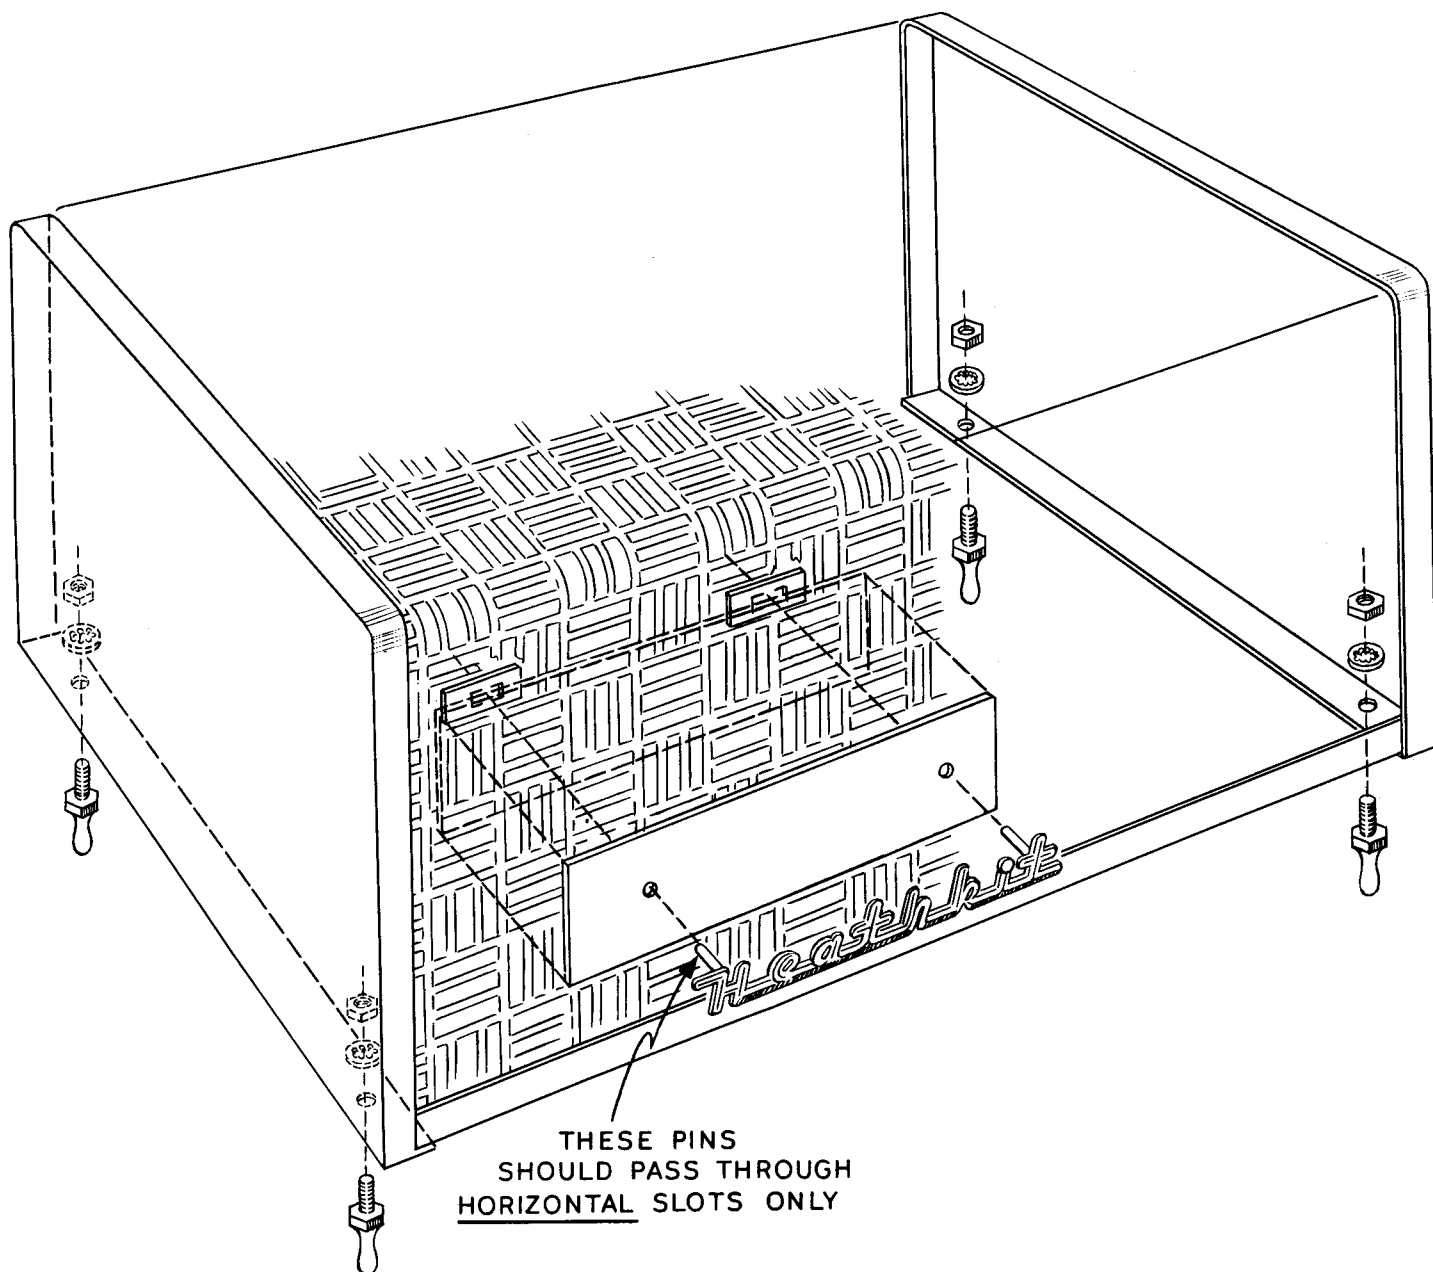

Figure 16
- () Slip a 1 5/8" length of sleeving over one end of the wire. Form a small hook at the end and insert the hooked end, with the sleeving in place, under the group of resistors between socket V5 and filter condenser G. Connect the hooked end to filter condenser H4 (S). Push the sleeving snugly against H4.
- () Connect one lead to CC1 (S).
- () Connect the adjacent end to CC2 (S).
- (-) Identify the four spring-catch pins, referring to Figure 16. Mount pins at each of the four corners of the cover, using 6-32 lockwashers and nuts.
- (-) Referring to Figure 16, attach the plastic name-plate and escutcheon to the cover screen using the speed nuts provided. A suggested location is given in Figure 16. Any of the horizontal slots in the cover will accept the name-plate pins if some other location is preferred.